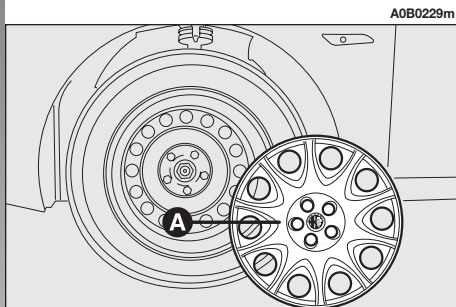

fig. 3
- Remove the wheel cap (**A**-fig. 3) (for versions with steel rims only).